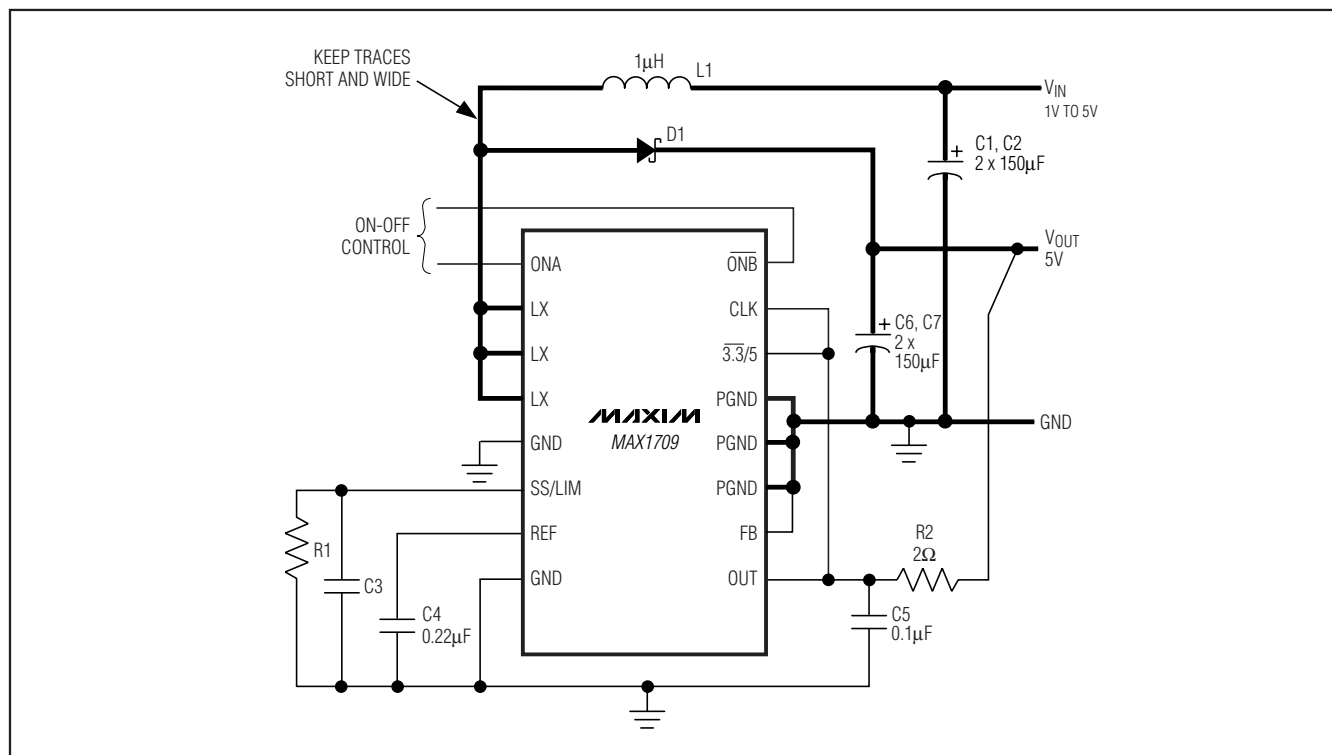
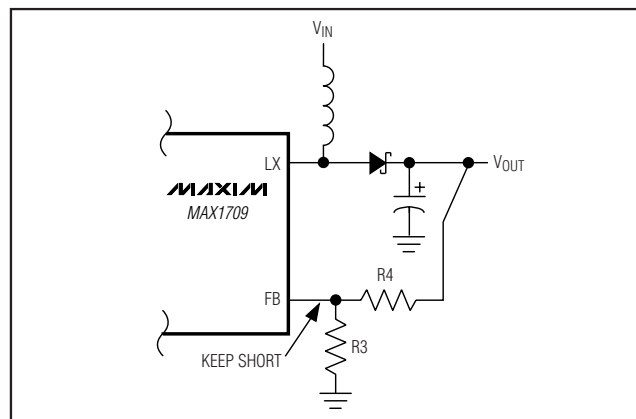

Figure 1. Standard Operating Circuit
Figure 4. Adjustable Output Voltage
**Note 4:** Startup is tested with Figure 1's circuit. Output current is measured when both the input and output voltages are applied.
(Circuit of Figure 1,  $T_A = +25^\circ\text{C}$ , unless otherwise noted.)
on the logic applied to the  $\overline{3.3/5}$  input (Figure 1). The output can be configured for other voltages, using two external resistors as shown in Figure 4. To set the output voltage externally, choose an R3 value that is large enough to minimize load at the output but small enough to minimize errors due to leakage and the time constant to FB. A value of  $R3 \leq 50\text{k}\Omega$  is required.
from its nominal value (see *Electrical Characteristics*). A resistor (R1 in Figure 1) between SS/LIM and ground reduces the current limit as follows:
The output filter capacitor ESR must be kept under 15mΩ for stable operation. Two parallel 150µF polymer capacitors (Panasonic EEFUE0J151R) typically exhibit 5mΩ of ESR. This translates to approximately 35mV of output ripple at 7A switch current. Bypass the MAX1709 IC supply input (OUT) with a 0.1µF ceramic capacitor to GND and connect a 2Ω series resistor to OUT (R2, as shown in Figure 1).
Due to high inductor current levels and fast switching waveforms, proper PC board layout is essential. Protect sensitive analog grounds by using a star ground configuration. Connect PGND, the input bypass capacitor ground lead, and the output filter capacitor ground lead to a single point (star ground configuration). In addition, minimize trace lengths to reduce stray capacitance and trace resistance, especially from the LX pins to the catch diode (D1) and output capacitors (C6 and C7) to PGND pins. If an external resistor-divider is used to set the output voltage (Figure 4), the trace from FB to the resistors must be extremely short and must be shielded from switching signals, such as CLK or LX. Refer to a layout example in the MAX1709EVKIT data sheet.